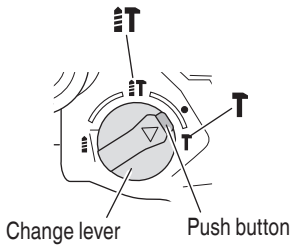

Fig. 24
- (1) Mount the bull point or cold chisel.
- (2) Press the push button and set the change lever to middle of  $\frac{1}{2}$ T mark and **T** mark (Fig. 24).